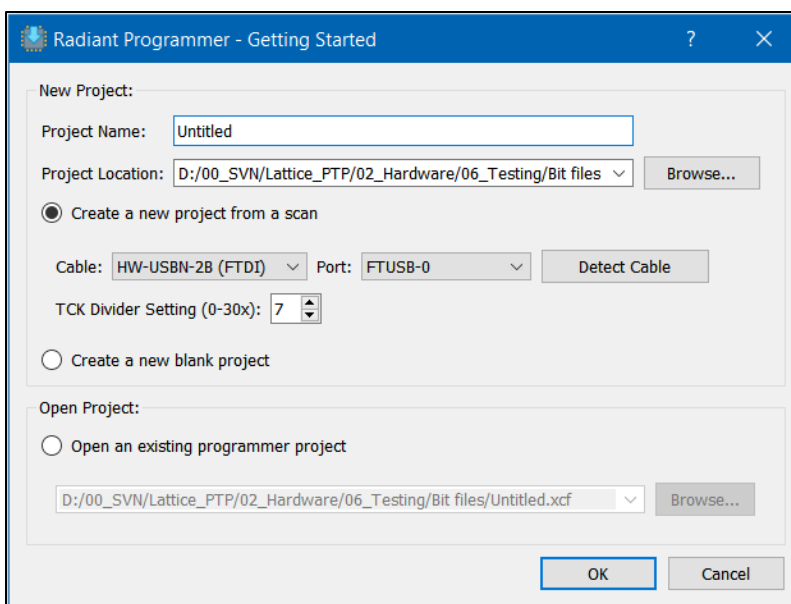

Figure 3.9. Creating a New Project from Scan
2. Open the Lattice Radiant Programmer software and create a new project. In the **Getting Started** dialog box, enter the **Project Name** and **Project Location** as shown in Figure 3.9.